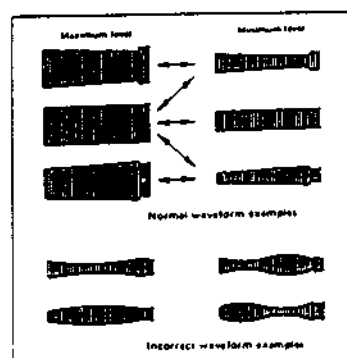

Fig. 1-5-4
Confirm that the RF envelope appears, as in Fig.1-5-4.
- 5) Turn the tool first to position the A/C head fully toward the capstan. Then gradually return it toward the drum and stop at the position of maximum FM waveform output level as shown in Fig.1-5-4
Confirm that the RF envelope appears, as in Fig. 1-5-4.